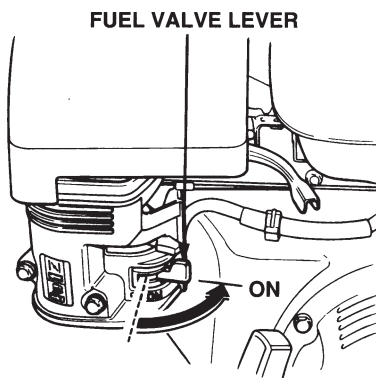

Figure 9. Fuel Shut-OFF Lever
1. Move the fuel shut-off lever (Figure 9) to the **ON** position.